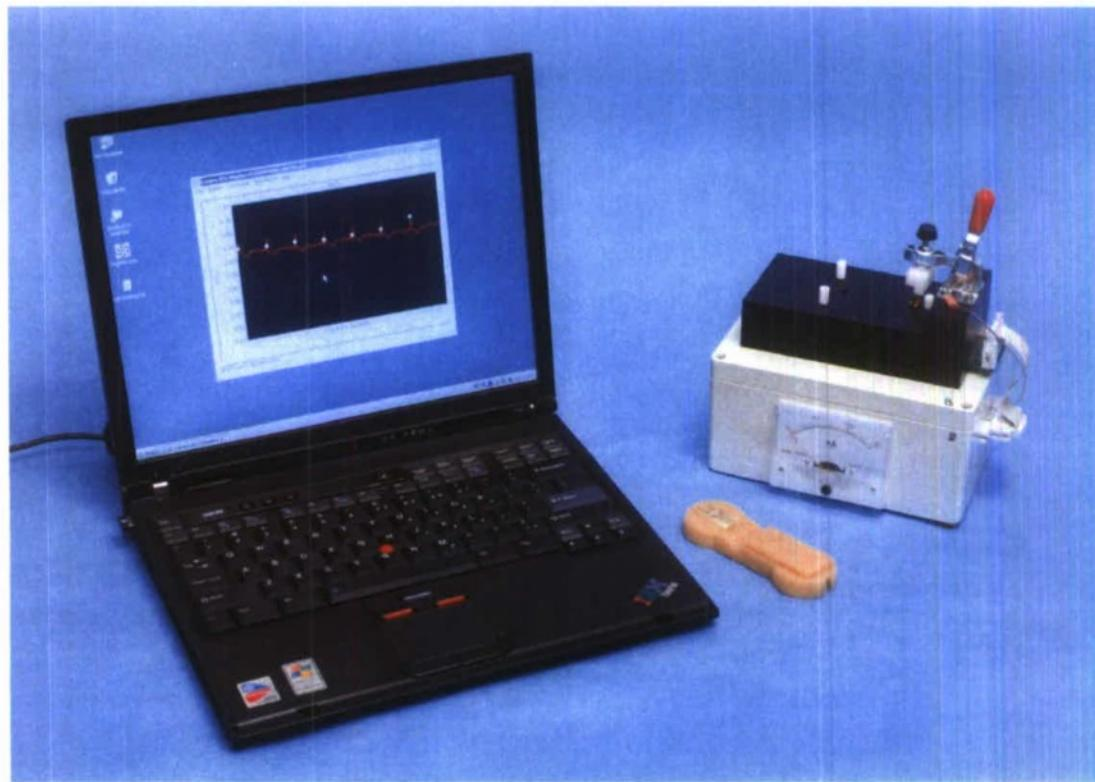

Figure 1. The Creare Diver Health Monitoring System
The DHMS is composed of three components: (1) one or more body-worn sensors, (2) a general purpose PC running a custom-written application to control the sensors and to receive the data, and (3) a dock for recharging the body-worn sensors. The system components are shown in Figure 1.